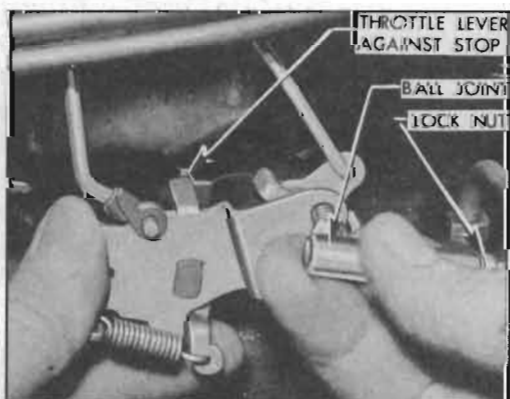

Figure 3-6—Throttle Rod Adjustment—Synchronmesh
2. While a second man presses accelerator pedal firmly against the floor mat, which must be in place, adjust the ball joint on throttle operating rod so that the screw will just enter the hole in throttle lever. On *Carter* Carburetor the upper hole in throttle lever is used. See figure 3-6.